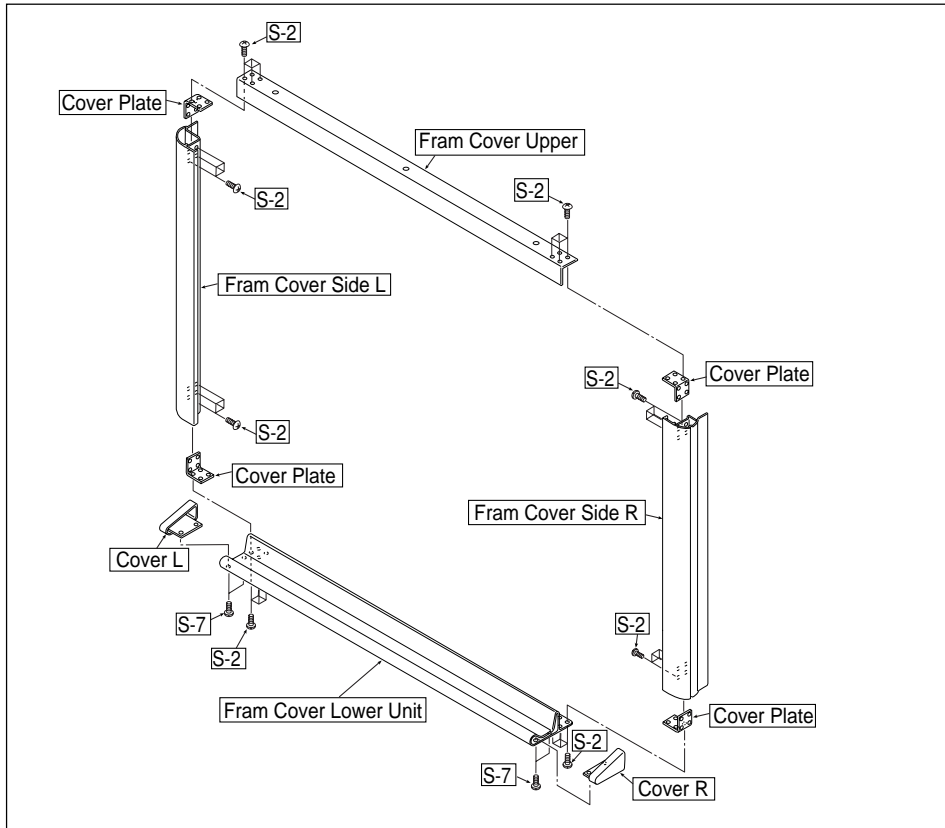

Fig. 13
7) Disassemble the Frame Cover Section. (See Fig. 13.)
Remove the "S-2" and "S-7" screws shown in Fig. 13 and disassemble the frame cover.